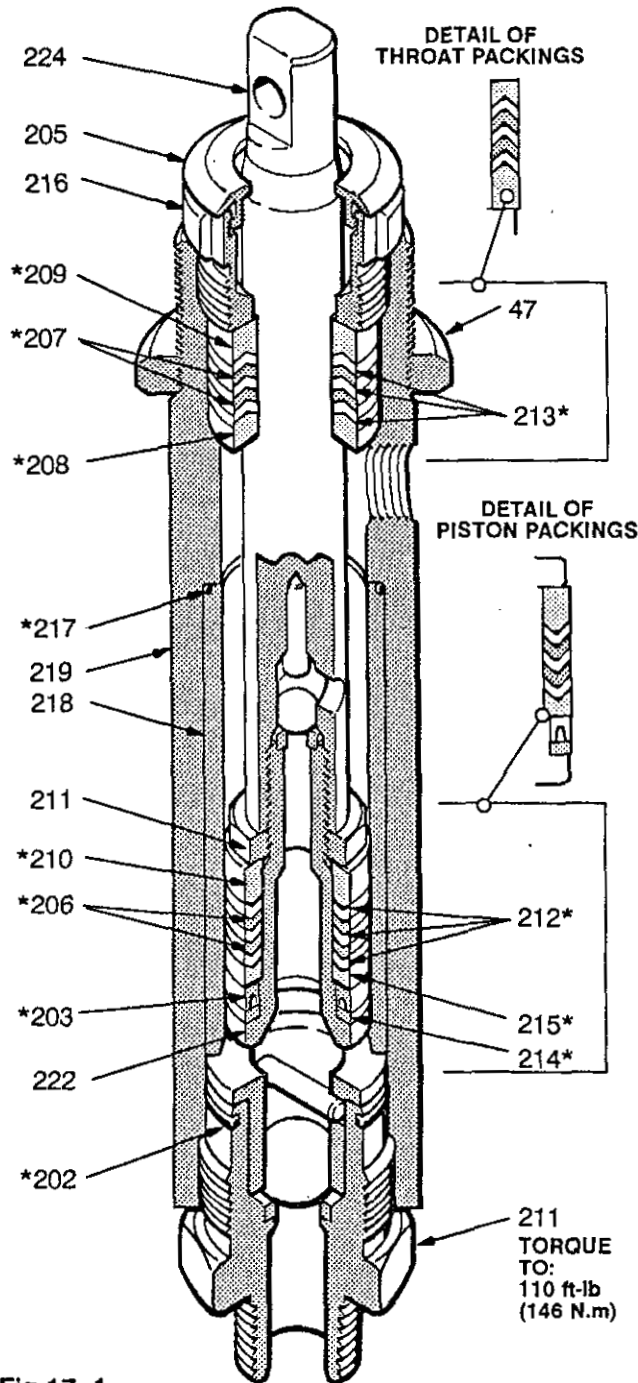
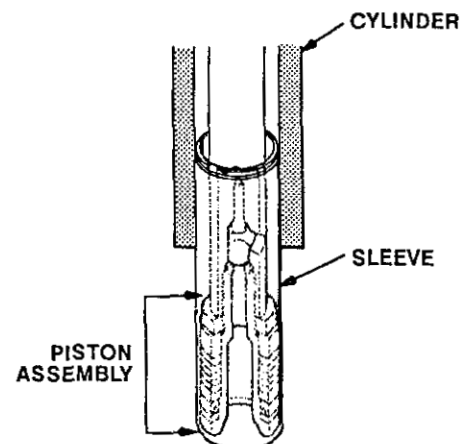

Fig 17-1
Fig 17-4
8. Place a new seal (217*) into the cylinder. See Fig 17-1.
9. Install these parts in the top of the cylinder (219): the male gland (208*), alternate the three plastic packings (213*) and the two leather packings (207*), and then install the female gland (9). See Fig 17-1.
10. Loosely install the packing nut (216) and plug (205). See Fig 17-1.
12. Slide the sleeve/piston rod assembly into the bottom of the cylinder. See Fig 17-4.
13. Screw down the cylinder locknut (47) until it is finger tight at the bottom of the external cylinder threads.
14. Place the intake valve (223) in a vise. Install a new o-ring (202*). Screw the pump cylinder into the intake valve. Torque to 110 ft-lb (146 N.m). See Fig 17-1.